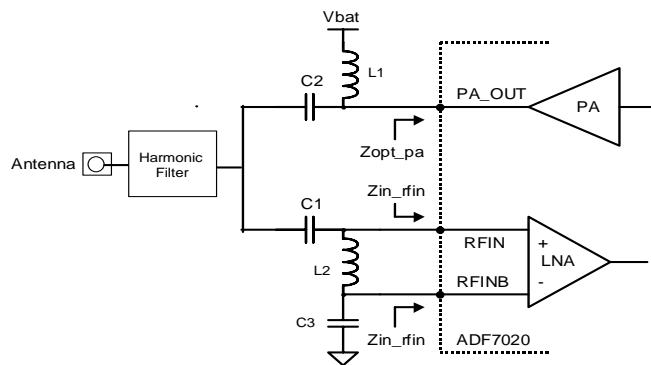

Figure 5.. LNA/PA Output Matching Circuit
The mother board (MB) comes with a cable for connecting to the printer port of a PC. The cable diagram is shown in Figure 5. The MB can be supplied directly with an external supply of 2.3V to 3.6V or a battery voltage from 3V to 9V by switching in a regulator using jumper K3. There is an on-board 11.0592MHz AT crystal. The crystal combined with 33pF shunt capacitors provide the low cost frequency reference for the local oscillator.